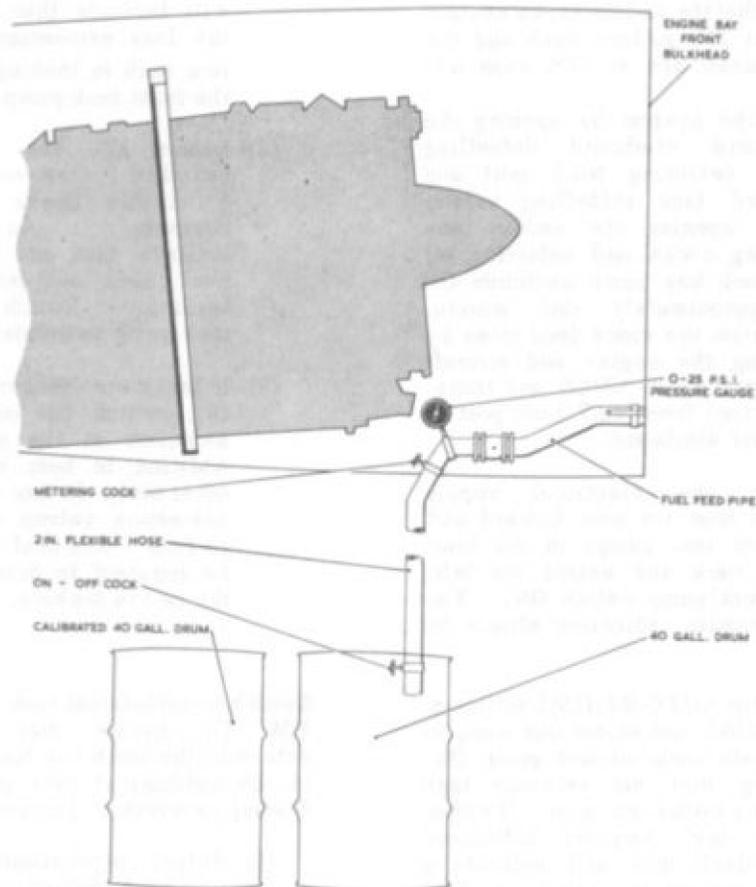

Fig.17. Flow test equipment
107. The engine fuel feed pipe must be disconnected as required, at a convenient point aft of the engine bay front bulkhead, and the flexible hose connected to it. One on/off cock must be fitted at the outlet end of the hose, the other close to the inlet end, with the pressure gauge between this cock and the connection to the engine feed line (fig.17).
- (1) Couple up the test equipment to the engine feed line as shown in fig.17. An electrical tradesman will be required to connect up the sequence timer test box (Sect.6, Chap.9) and to assist during the tests.
- (2) Ensure that all tank servicing cocks in the group under test are closed.
- (3) Ensure that the L.P. cock and cross-feed cocks are closed.
- (4) Select AUTO on the AUTO-MANUAL switch of the appropriate group (main control panel).
- (5) Switch ON all fuel pumps in the group (main control panel).
- (6) Using the sequence timer test box, determine and record which pump is running at full speed.
- (7) Select MANUAL on the AUTO-MANUAL switch and switch the fuel pumps OFF.
- (8) Remove the three fuses from the 3-phase supply to the motor of the sequence timer governing that particular side of the aircraft (panels 59P port, 60P starboard).
- (9) Open the tank servicing cock in the line from the pump recorded in op.(6).
- (10) Open the L.P. cock.
- (11) Place the free end of the flexible hose in the non-calibrated drum and prime the line by opening both cocks in the flexible hose and switching ON the pump recorded in op.(6). When an air-free flow has been obtained, switch the pump OFF and immediately afterwards turn off the on/off cock.
- (1) With the hose (fig.17) connected to No.4 engine feed line, and the two drums available, close all tank servicing cocks except that for No.1 group.
- (2) Open No.4 L.P. cock, both engine cross-feed cocks and the aircraft cross-feed cock.
- (3) With No.1, 2 and 3 L.P. cocks closed, ensure that the AUTO-MANUAL switch of No.1 group is switched to MANUAL.
- (4) Switch No.1 pump ON, bleed and prime the cross-feed lines in the manner described in para.109 (11).
- (5) Record the static pressure shown on the hose gauge.
- (6) Switch No.1 pump ON, fully open
- (1) Ensure that the fuel contents of the tank under test is less than 40 per cent of maximum capacity.
- (2) Disconnect the electrical supply plug from the tank auxiliary pump.
- (3) CLOSE the appropriate L.P. cock and ensure that all cross-feed cocks are closed. Connect the flexible hose (para.106 and fig.17) to the engine feed line, positioning
- (1) Fit the flexible hose (fig.17) to the appropriate engine fuel feed line.
- (2) Disconnect the fuel tank pressurisation air supply from the engine and couple up to the pipe a 60 to 200 p.s.i. air supply source.